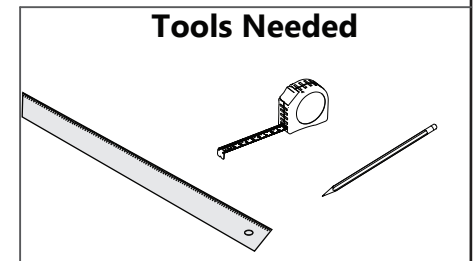

**Fig 4**
4. Transfer the measurements from Step #2 to the back Q-Wall Back Panels. Measure out from one side to mark the Q-Wall Back Panels, using a straight edge to mark a cut line. The overlap does not need to be centered. **Fig 4**